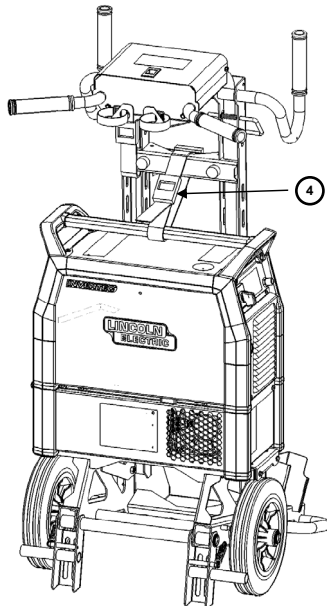

Figure 5
4. Use the belt around the Handle and Cart to finalize installation. (Figure 5)